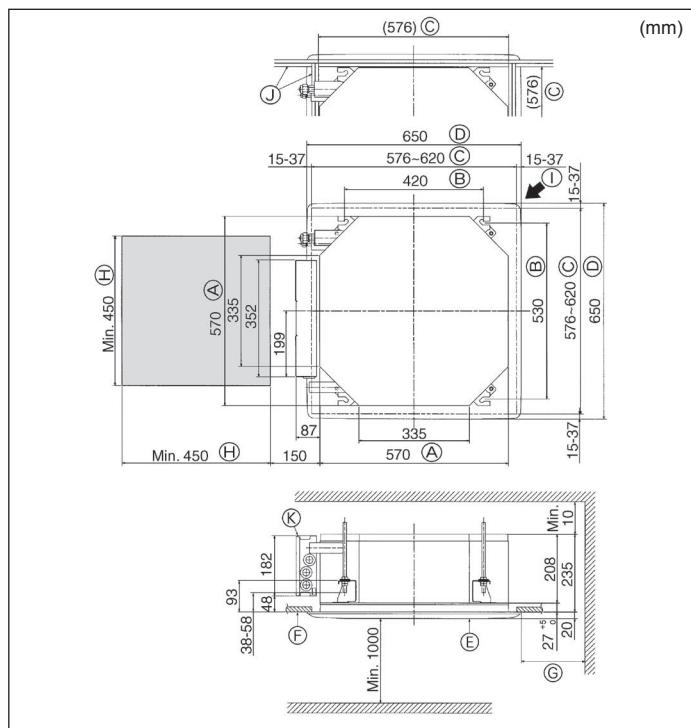

Fig. 4-2
⑤	Screw with washer (M5 × 25) for mounting grille	4
⑥	Drain socket	1
⑦	Insulation	1
⑧	Fixing screw for ⑨ 3.5 × 16 (Black) (for SLZ-KA-VAL(2))	2
⑨	Remote controller holder (for SLZ-KA-VAL(2))	1
⑩	Battely (AAA) (for SLZ-KA-VAL(2))	2
⑪	Wireless remote controller (for SLZ-KA-VAL(2))	1
4.2. Ceiling openings and suspension bolt installation locations (Fig. 4-2)